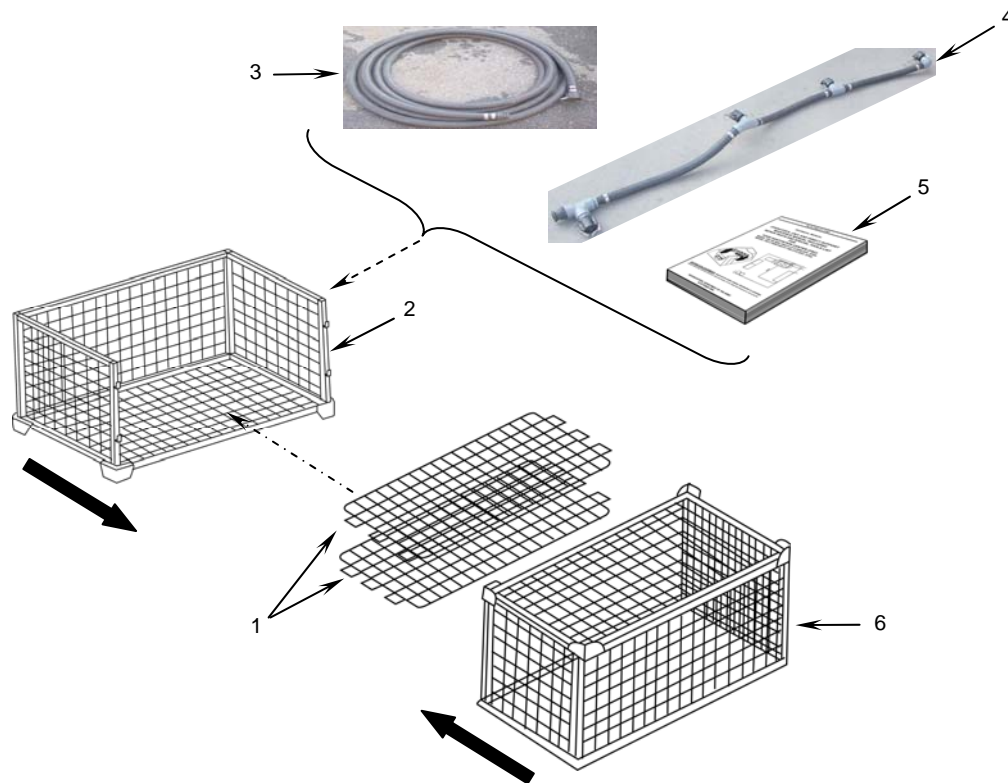

Figure 48. Packing Third Storage Rack Assembly.
- a. Place two shelves (**Figure 48, Item 1**) into the bottom of an empty storage rack assembly (**Figure 48, Item 2**).
- b. Coil and place the 50-ft drain hose (**Figure 48, Item 3**) into the storage rack assembly.
- c. Coil and place the sink drain hose assembly (**Figure 48, Item 4**) into the storage rack assembly.
- d. Place the FSC technical manual (**Figure 48, Item 5**) in a plastic bag and place in storage rack with hoses.
- e. Using a two-person lift (one person on each end), carefully turn an empty storage rack (**Figure 48, Item 6**) upside down and position it so that its empty side faces the empty side of the just-packed storage rack.